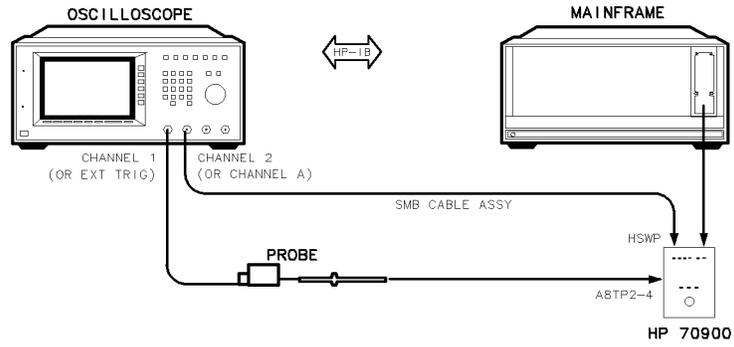
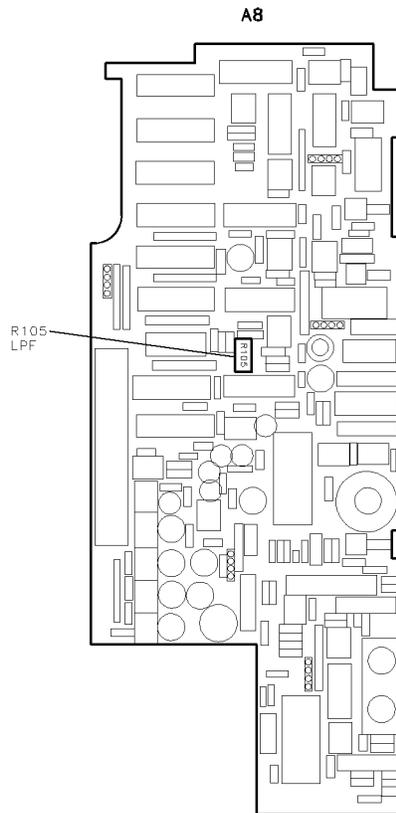

Figure 6-35. Equipment Setup for Adjustment 20. Sweep Overshoot
Figure 6-36. Locations for Adjustment 20. Sweep Overshoot
1. Remove the HP 70900B local oscillator source's cover and connect the equipment as illustrated in Figure 6-35. Connect the oscilloscope probe to A8 frequency control (TP2-4). See Figure 6-36 for the location of the test point. The oscilloscope monitors the HP 70900B local oscillator source's sweep DAC output when triggered by the module's rear panel HSWP signal.